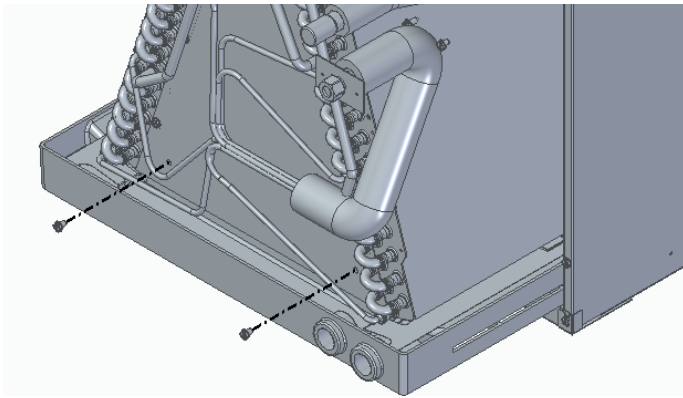

FIGURE 2
4. Remove the two screws in the front of the coil/pan assembly that attach the two pieces together where the pan meets the coil. See Figure 2.